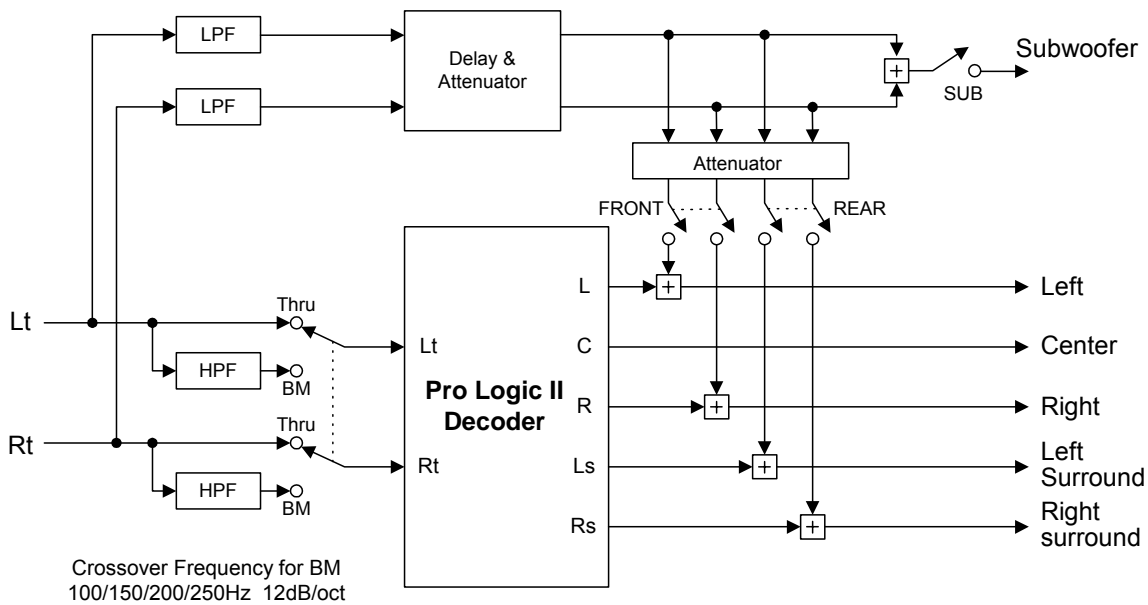

Fig.5 Bass Management Function Block Diagram
3. The 4 types of low frequency destinations are selectable. (Fig. 5)